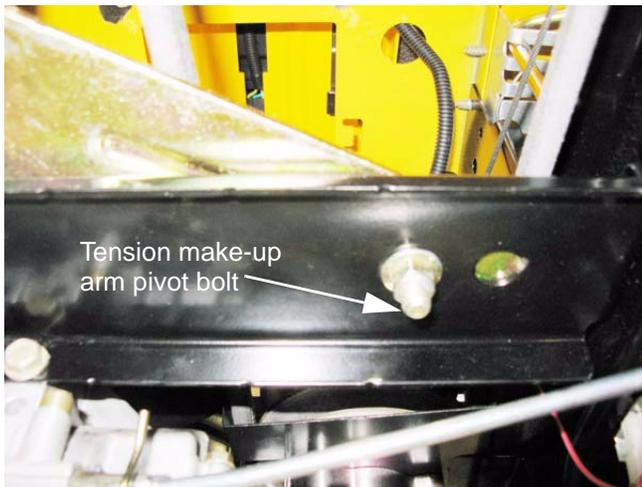

Figure 6.38
2. Unbolt the arm from the torque bracket using a pair of 9/16" wrenches. See Figure 6.38.